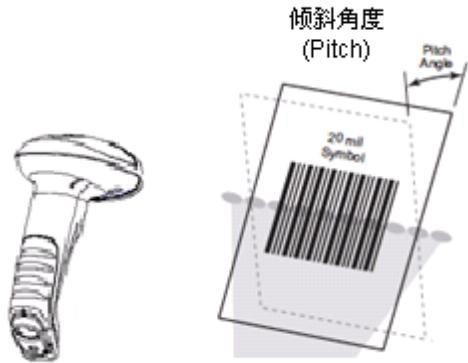

Fig. 1-14
- ✧ Pitch : $\pm 55^\circ$, 0° Roll and 0° Skew (Fig. 1-14)